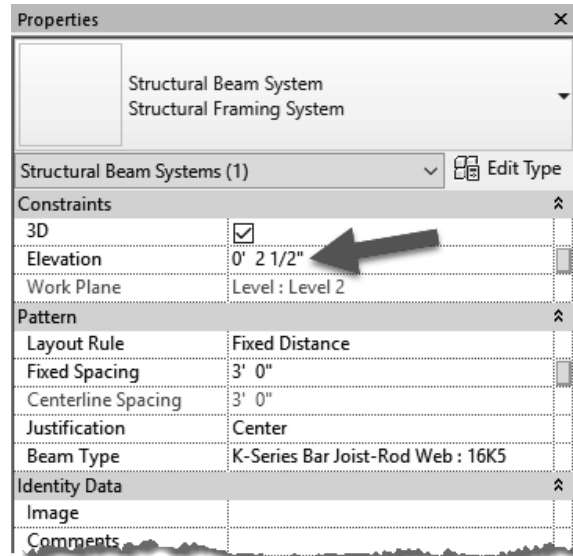

FIGURE 8-4.8 Instance properties for Beam System
33. Set the *Elevation* to 2 1/2" and click **Apply** (Figure 8-4.8).
- f. See Figure 8-4.8.